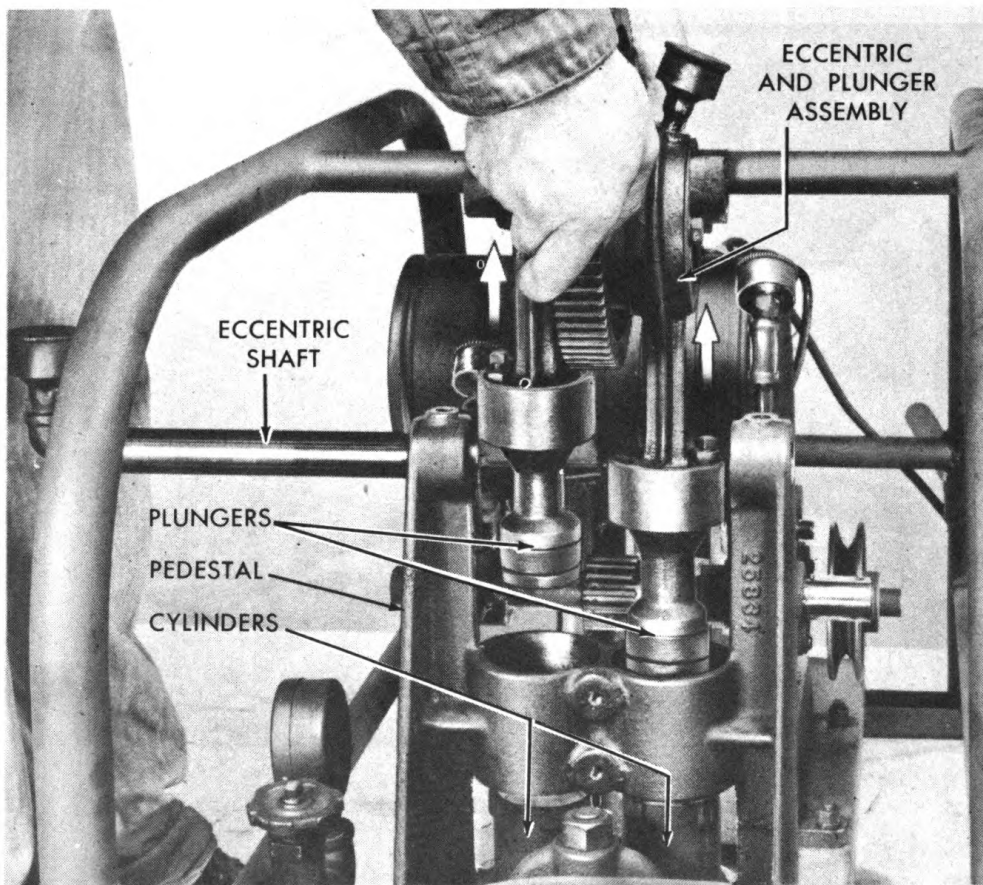

Figure 35—Removing Eccentric and Plunger Assembly
(3) Remove eccentric, eccentric straps, cross heads, and plungers as an assembly. This will require a strong upward pull. (See figure 35.)